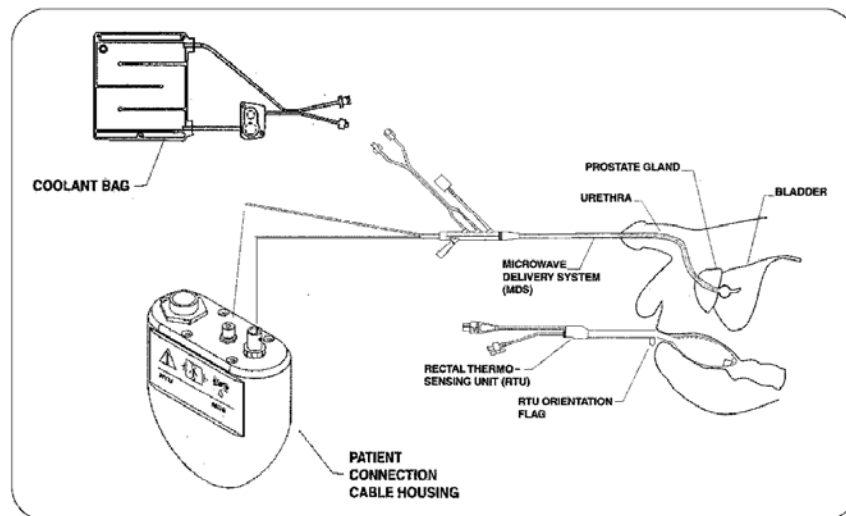

Figure 2-18: Connected MDS and RTU: Note The single use RTU is pictured above.
- 5). Secure the Microwave Catheter fiber optic and microwave connectors to the patient connection cable housing (*figure 2-18*).